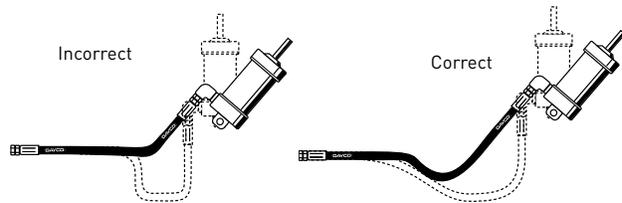

FIGURE 3 — MOTION ABSORPTION
**5.23 Lengths** – Unnecessarily long hose can increase pressure drop and affect system performance. When pressurized, hose that is too short may pull loose from its fittings, or stress the fitting connections, causing premature metallic or seal failures. When establishing hose length, refer to Figures 3, 4, and 5; and use the following practices: